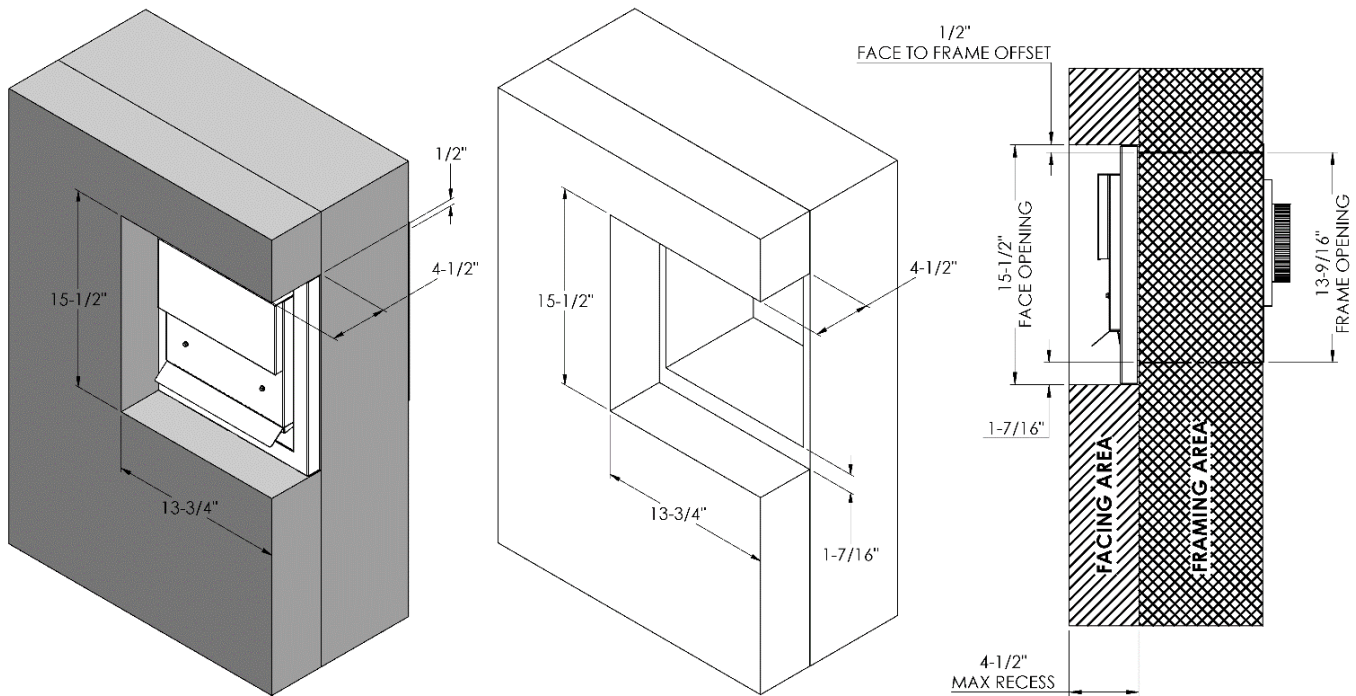

Figure 9 - Installation for recessed application showing maximum allowable depth.
**IMPORTANT: THE FACE OPENING IS OFFSET 1/2" [1.3cm] ABOVE THE FRAME OPENING. PLEASE REVIEW THE SHADED AREA IN Figure 9.**